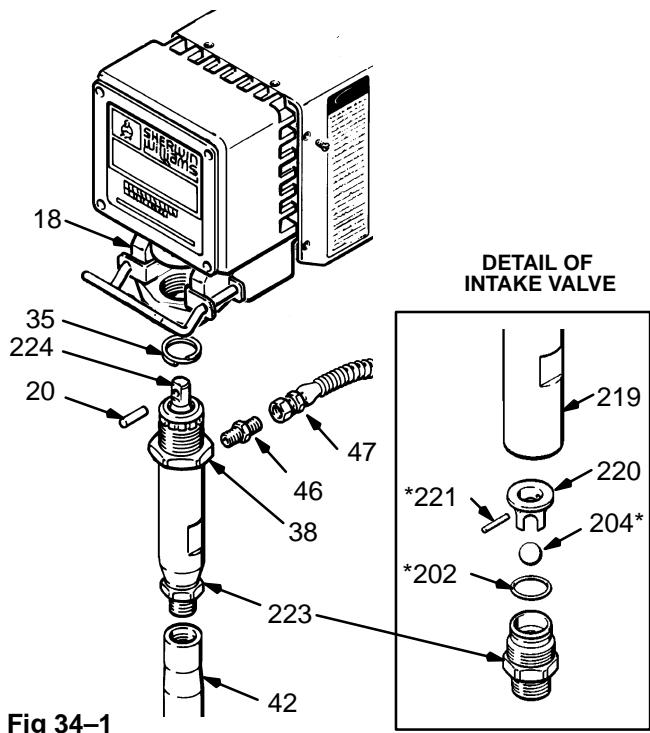

Fig 34-1
Removing the Pump *Refer to Fig 34-1.*
1. Unscrew the intake valve (223) from the cylinder (219). Remove the o-ring (202), ball guide (220), stop pin (221) and ball (204) from the valve. Refer to Fig 34-1.